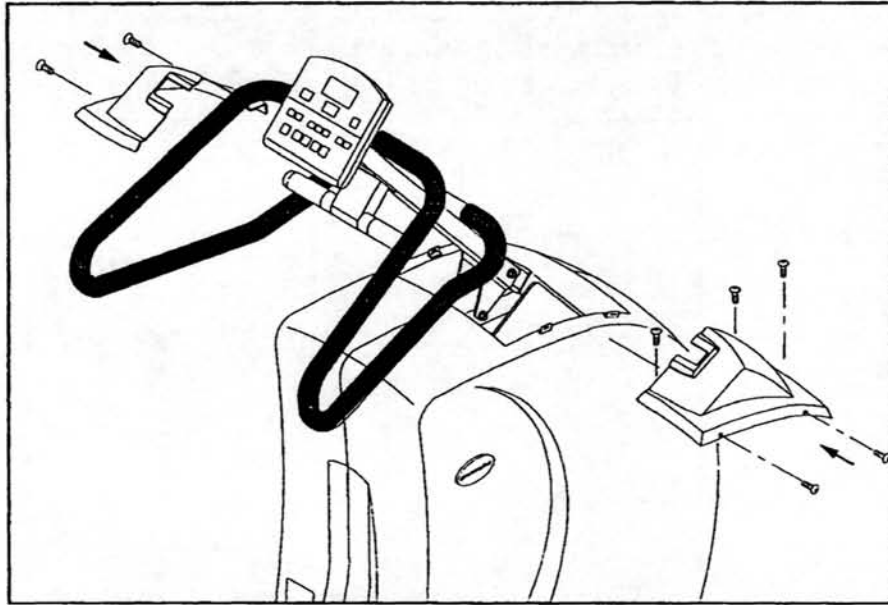

Fig.2-10
5. Secure the ELECTRONICS POST COVER with screws. (see fig.2-10)